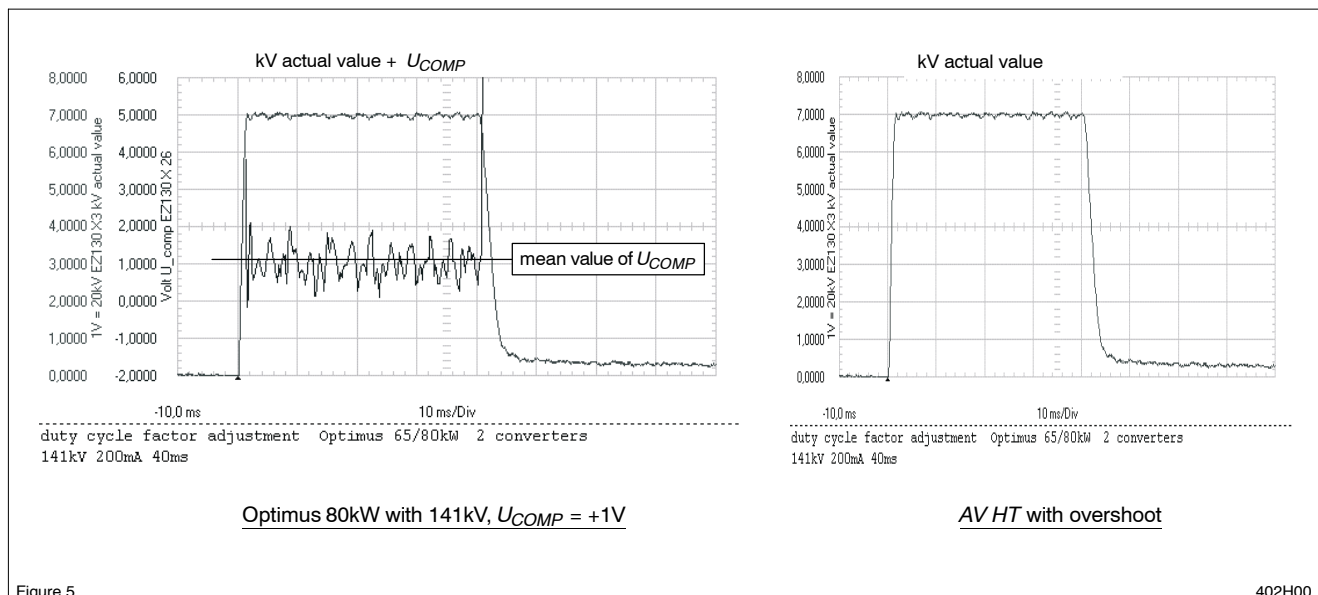

Figure 5
- Check also the kV peak value AV HT (not the overshoot), it must be **138kV** for **141kV** setpoint. (see scope figure 5)